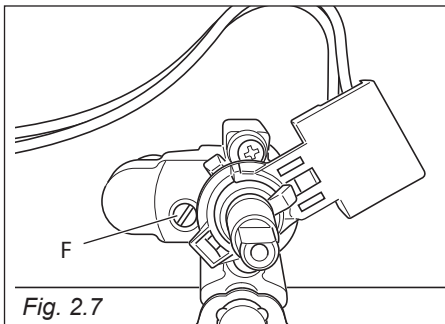

Fig. 2.7
- With a thin screwdriver turn the screw "F" until adjustment is correct (fig. 2.7).